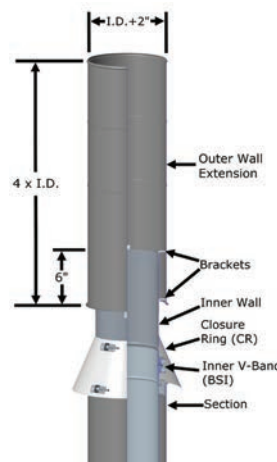

Figure 71a - No Loss Cap (NLC) installed or I.D. from 5” to 13”
The last 6” of the inner flue is surrounded by a larger outer wall (I.D +2”) that has a height of 4 times the flue diameter and is open at the bottom. The Closure Ring (CR) must be seal to the inner wall with outer Sealant **S-375**. Rain water that falls into the larger wall washes down the side of the larger chimney and discharges at the bottom. See **Figure 71a**.
For I.D. from 5” to 13”, the No Loss Cap is an integral component that attaches to the chimney flue using a standard inner V-Band (BSI) (See **JOINT ASSEMBLY Section**). For Models CAX1, CIX1, CIX2 and CIX4, a Closure Ring (CR) is provided to protects the insulated space between standard pipe inner and outer. See **Figure 71a**